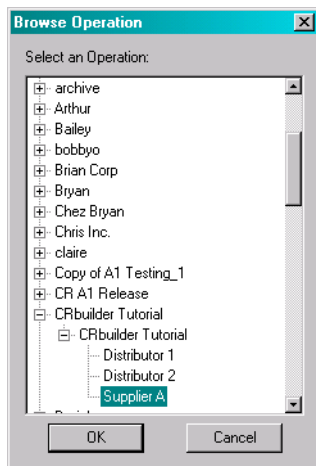

Figure 28-37. Click the Supplier A Operation from the CRbuilder Tutorial folder, then click **OK**.
- ❸ Type your user name in the **User Name** field.
- ❹ Type your password in the **Password** field.
- ❺ Select Predefined Operation from the **Operation Type** drop-down list.
- ❻ Click **Browse**. The Browse dialog will present you with a list of Operations to choose from. Open the CRbuilder Tutorial folder, then click the *Supplier A* operation from the list. Compare your work to Figure 28-37, below.